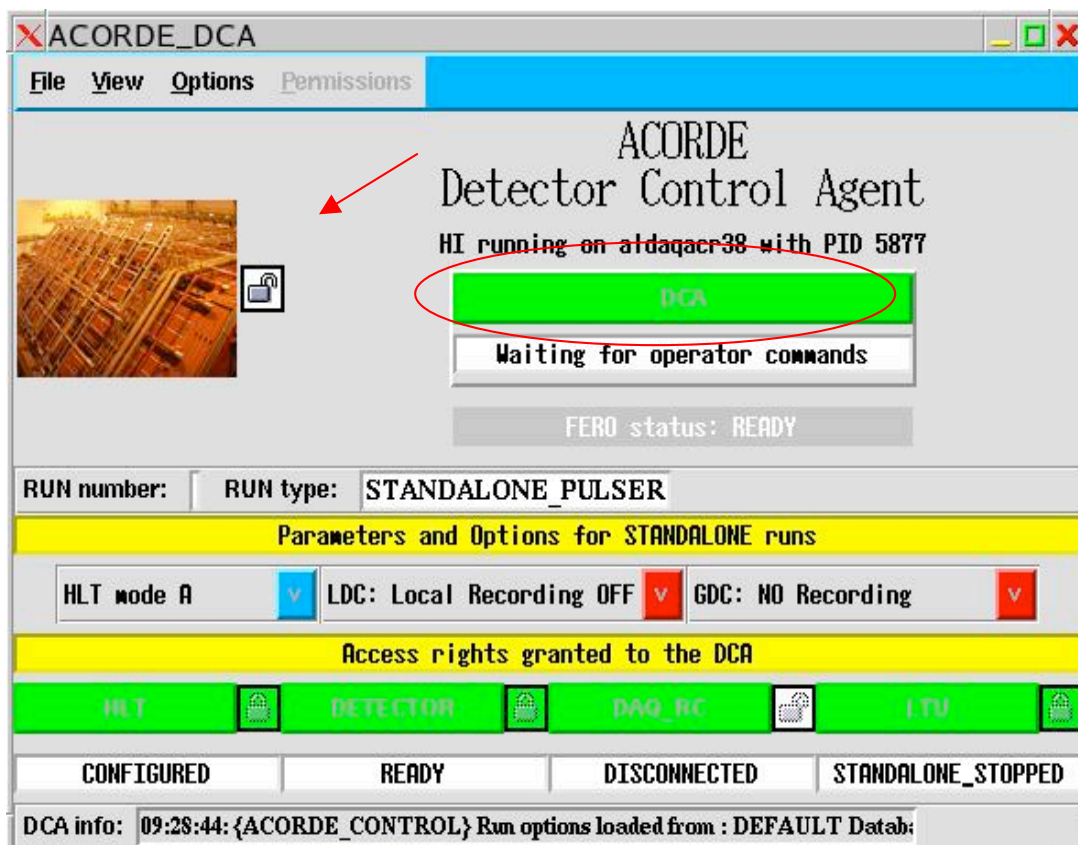
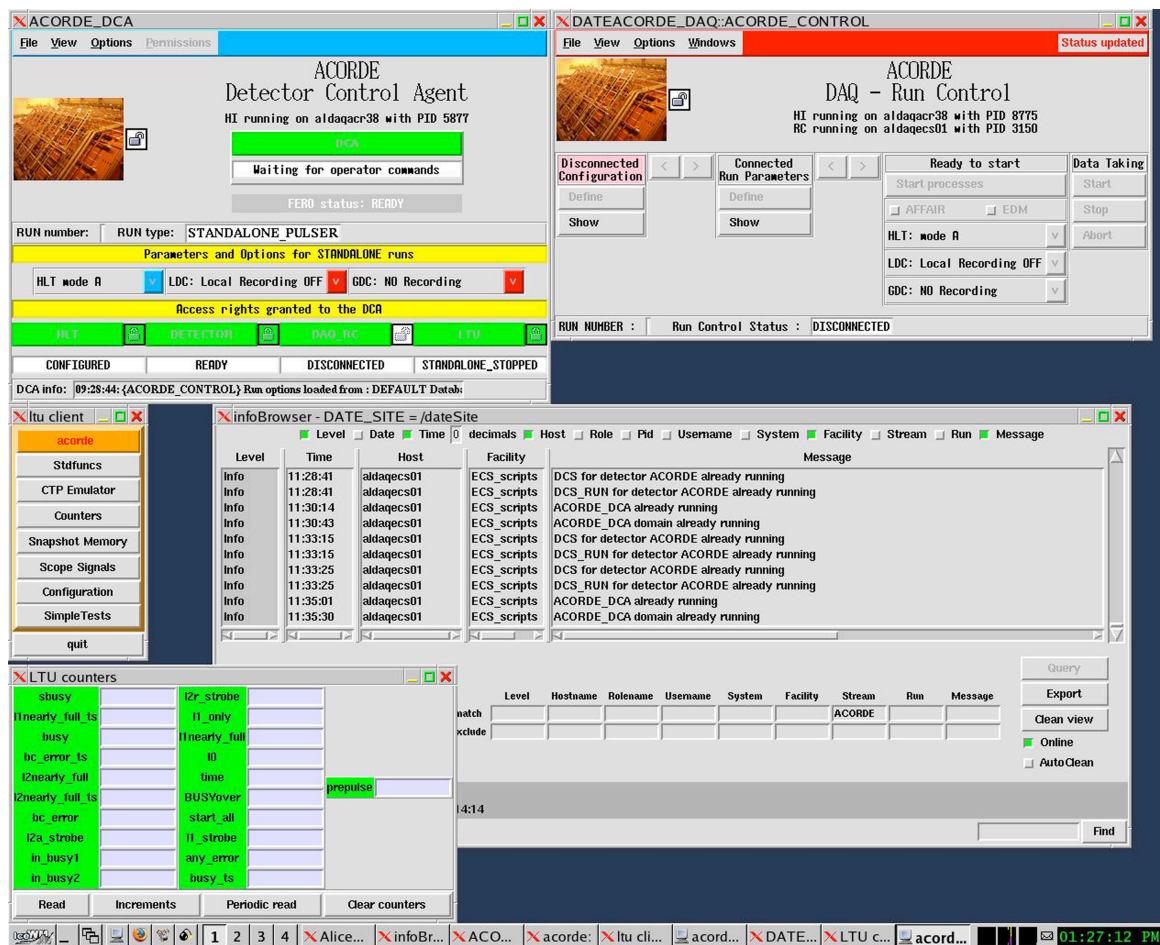

Figure 10 – ACORDE Detector Control Agent
Figure 11 – Screenshot during a Standalone Run
Note that, to use it, you need to unlock it and take control. The padlock close to ACORDE picture on DCA can assume 3 different states (arrow Fig. 10).
The window in Fig.10 will pop up. The “Info Browser” and the main DAQ Run Control Window will also pop-up.
The typical screenshot during a standalone run is shown in Fig. 11
- Click on the DCA button marked in Fig. 10 and Fig.11.
- 3) Initialize the Electronics. Go to the VME crate of Fig. 11 and in the windows with title Itu Client: go to Configuration → TTCinit. This will display a new terminal like Fig. 14. What you need to check is the numbers of TTCrx_reset, TTCrx not ready TTCrx config, and FEE reset, the correct numbers should be: 0 0 0 0 0. see Fig. 13